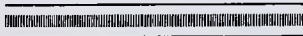

Fig. 19. Satin Stitch
Set the stitch length regulator knob (F) as near to 0 as possible, but still permitting the material to feed through the machine from front to back. This will produce a satin stitch which is the basis for all embroidery design. Test the stitching to make certain that the material is feeding properly to produce a good satin stitch as illustrated in Fig. 19 below.